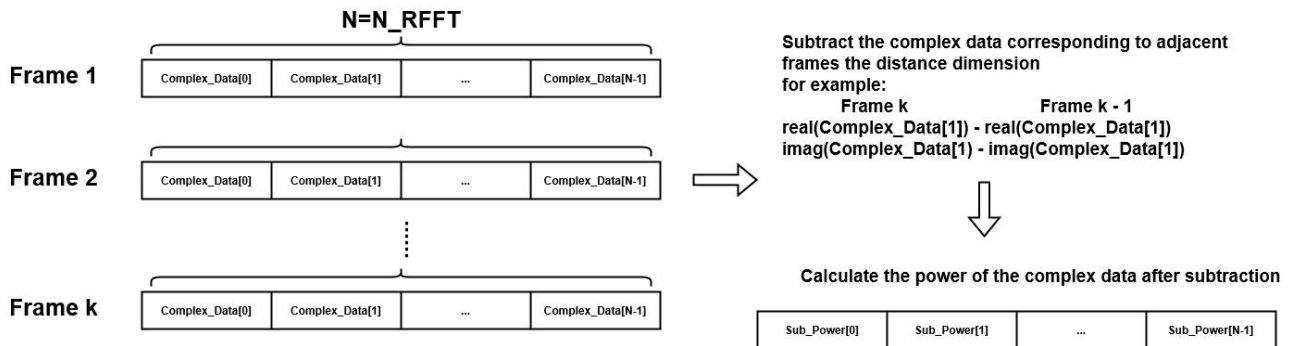
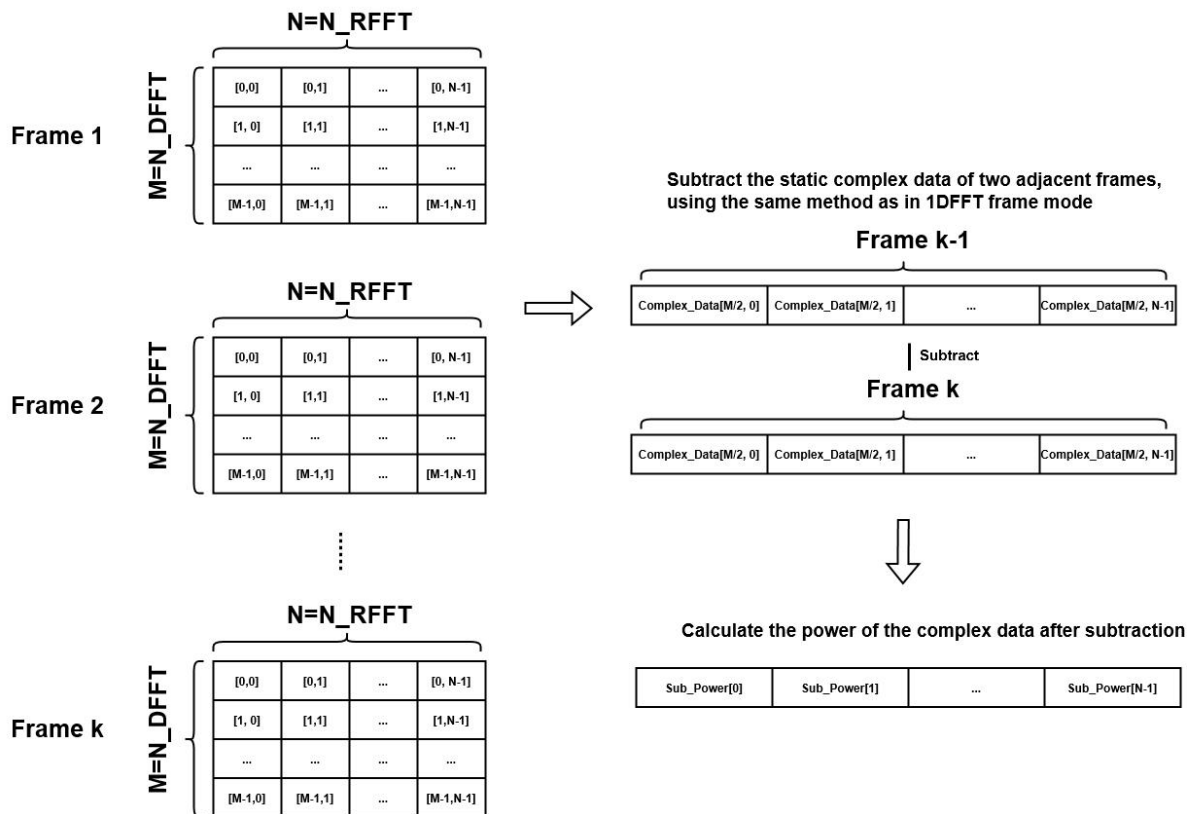

Figure 2-33 Interframe-Subtraction Calculation (1D FFT Frame Structure)
Figure 2-34 Interframe-Subtraction Calculation (2D FFT Frame Structure)
- (4) Interframe Subtraction: Effective for both 1D FFT and 2D FFT Frame structures. In 1D FFT mode, only one Interval of data is reported per frame. The Interval data from adjacent frames is subtracted before power is calculated to emphasize moving targets, as shown in Figure 2-33. In 2D FFT mode, the zero-velocity Doppler data is extracted from each frame. The zero-velocity data from adjacent frames is subtracted before power is calculated to detect moving targets, as shown in Figure 2-34.